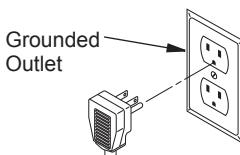

Figure 22 - Grounding Plug
**⚠ WARNING:** Blower accessory must be grounded. Blower comes with a three-prong, grounding plug as shown in Figure 22. The plug is your protection against electrical shock. Plug it into a standard, three-hole, grounded, outlet. If cord needs replacing, use only a cord with a three-prong, grounding plug.